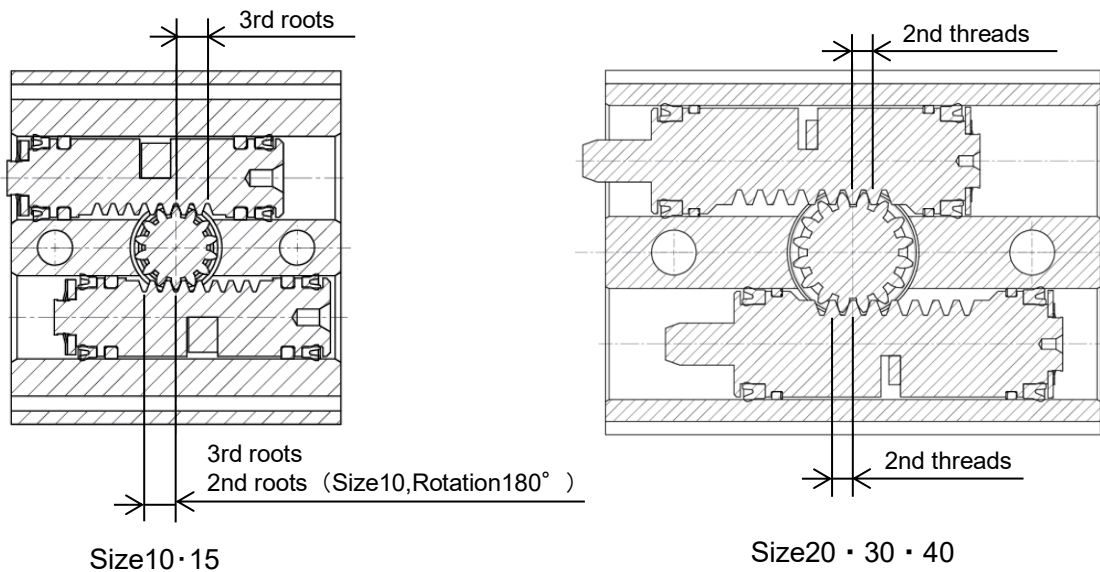
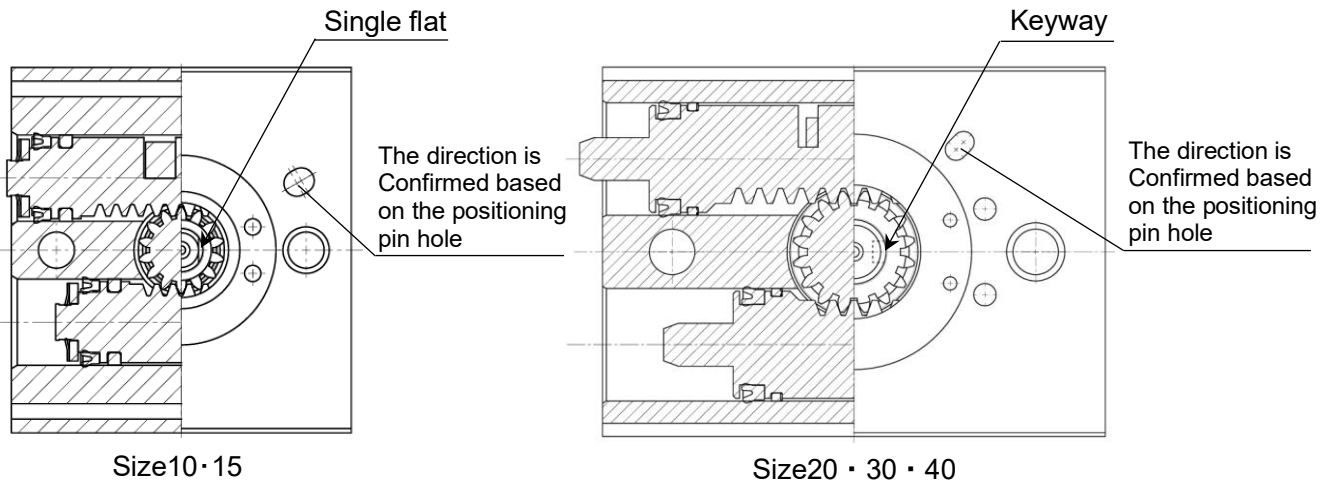

Fig.21
Fig.22
- (3) Hold the piston in place and install the pinion gear on the piston. Figure 21 shows the piston position and Figure 22 shows the pinion gear assembly angle.